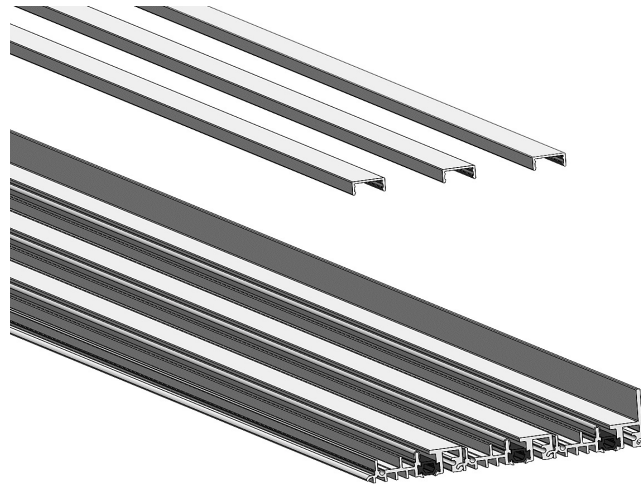

Figure 5
12. Set the sill assembly onto the bed of sealant and align the sill with marks on the floor. Shim the sill assembly as required and secure the frame with adequate anchor screws for your application. Once the sill is anchored to the floor, verify that it is 100% flat and level in all directions. After verification, locate, and apply all snap-in beauty covers to conceal the anchor screws and create a flat surface for the panels to seal against. (See Figure 5)